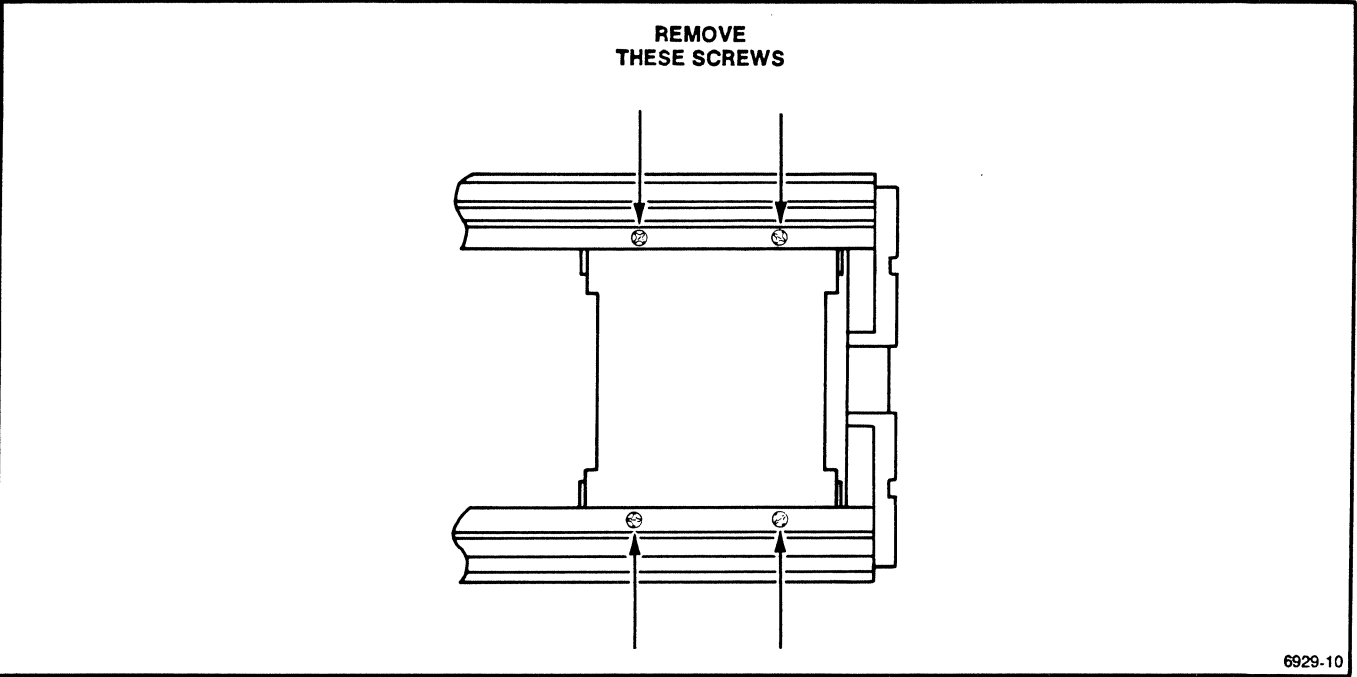

Fig. 3-9. Transformer assembly attaching screws.
4. Remove the fastening screws shown in Fig. 3-9, then lift the transformer assembly out of the chassis.